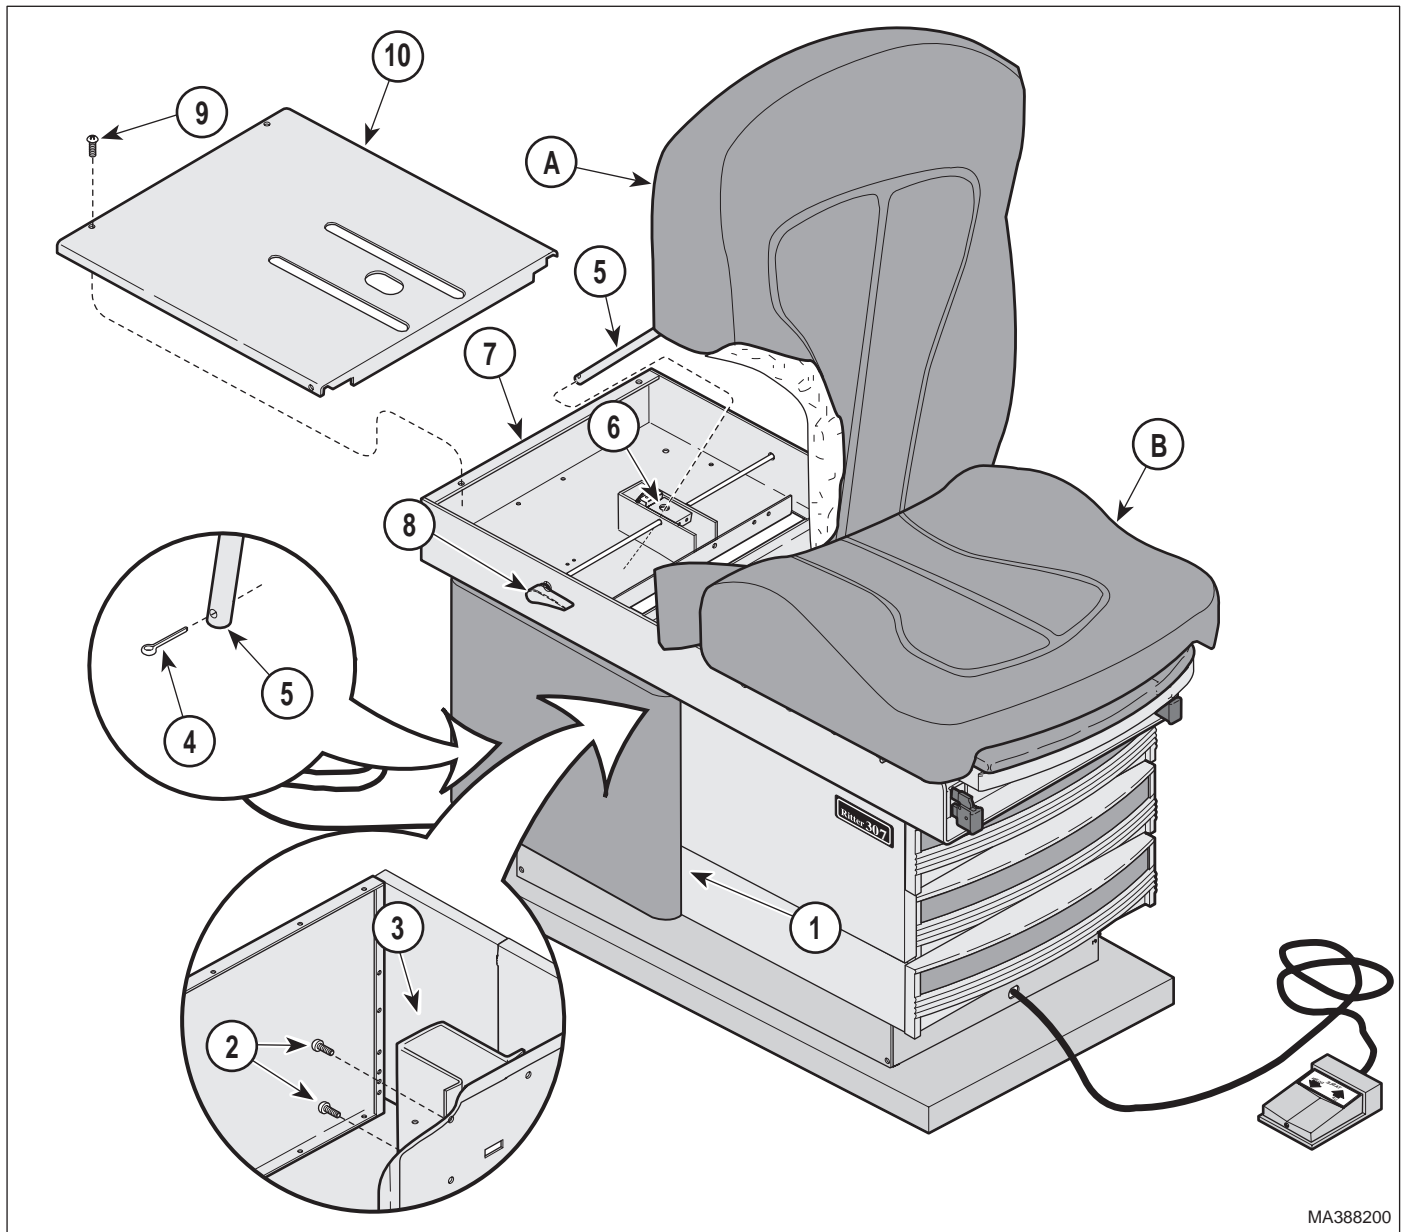

Figure 4-29. Back Lock Assembly Removal / Installation
- (1) Unplug the table power cord from the wall outlet.
- (2) Open the doors (1, Figure 4-29) and remove the four screws (2) that hold the rod upper cover (3) in place and remove the cover.
- (3) Remove the cotter pin (4) from the back support rod (5).
- (11) Raise the head section (A, Figure 4-29) until the back support rod (5) is free from the back lock assembly (6).
- (12) Supporting the head section (A), install the cover assembly (9) and secure with the four screws (10).
- (13) Rotate the back lock handles (8) to align the hole in the back lock assembly (6) and insert the back support rod (5).
- (14) Insert the cotter pin (4) in the end of the back support rod (5) and bend over the ends of the cotter pin.
- (15) Lightly lubricate the back support rod (5) with petroleum jelly and install the rod upper cover (3) and secure with the four screws (2).
- (16) Plug the table power cord into wall outlet.
- (6) Rotate the back lock handles (8, Figure 4-29) to align the hole in the back lock assembly (6) and insert the back support rod (5).
- (8) Raise the head section (A, Figure 4-29) until the back support rod (5) is free from the back lock assembly (6).
- (9) Supporting the head section (A), install the cover assembly (9) and secure with the four screws (10).
- (10) Rotate the back lock handles (8) to align the hole in the back lock assembly (6) and insert the back support rod (5).
- (11) Insert the cotter pin (4) in the end of the back support rod (5) and bend over the ends of the cotter pin.
- (12) Lightly lubricate the back support rod (5) with petroleum jelly and install the rod upper cover (3) and secure with the four screws (2).
- (13) Plug table power cord into wall outlet.